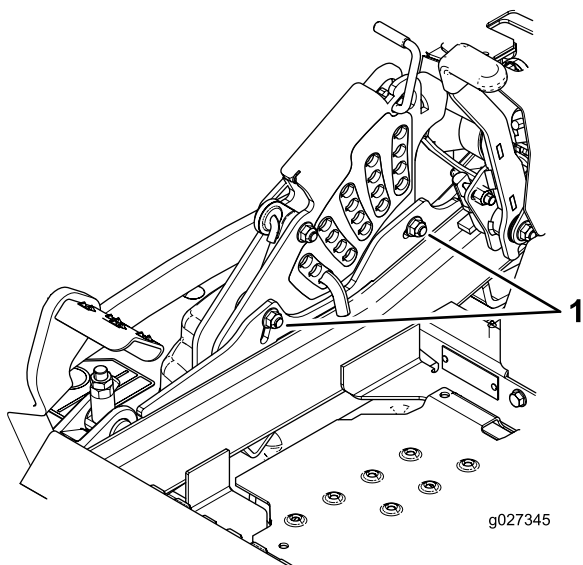

Figure 95
12. To adjust the single point system, loosen the two bolts at the bottom of the height-of-cut plate. Refer to Figure 95.
14. Tighten the 2 bolts at the bottom of the height-of-cut plate (Figure 95). Torque them to 37 to 45 N-m (27 to 33 ft-lb).